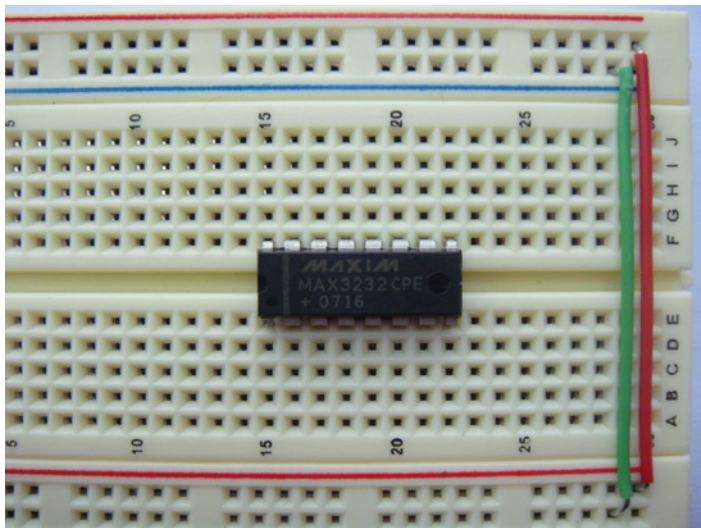

Figure 9-4. Installed power rails and IC
2. Install two power rails bridging the positive and negative rails on each side of the breadboard. This will make your circuit much neater. You can see my IC and the power rails installed in Figure 9-4.